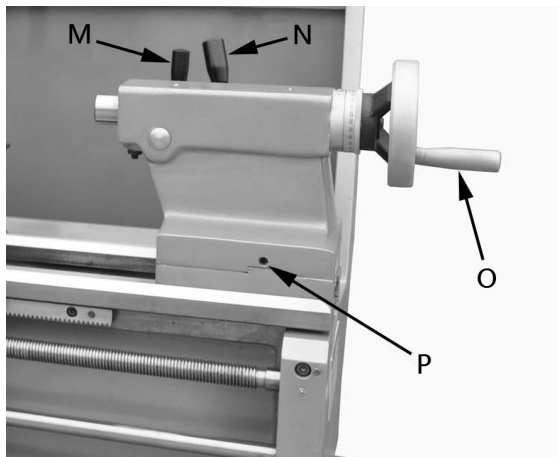

Figure 9-4
18. **Compound Slide Lock** (J, Figure 9-4) – Turn set screw clockwise to tighten and counterclockwise to loosen.
19. **Cross Slide Lock** (K, Figure 9-4) – Turn set screw clockwise, and tighten to lock. Turn counterclockwise and loosen to unlock.
20. **Carriage Lock** (L, Figure 9-4) – Turn hex socket cap screw clockwise and tighten to
21. **Tailstock Quill Clamping Lever** (M, Figure 9-4) – Lift up to lock spindle. Push down to unlock.
22. **Tailstock Clamping Lever** (N, Figure 9-4) – Lift up lever to lock. Push down lever to unlock.
23. **Tailstock Quill Traverse Hand wheel** (O, Figure 9-4) – Rotate clockwise to advance quill. Rotate counterclockwise to retract quill.
24. **Tailstock Off-Set Adjustment** – Three set screws located on tailstock base are used to off-set tailstock for cutting tapers. Loosen lock screw on tailstock end. Loosen one side set screw (P, Figure 9-4) while tightening the other until the amount of off-set is indicated on scale. Tighten lock screw.